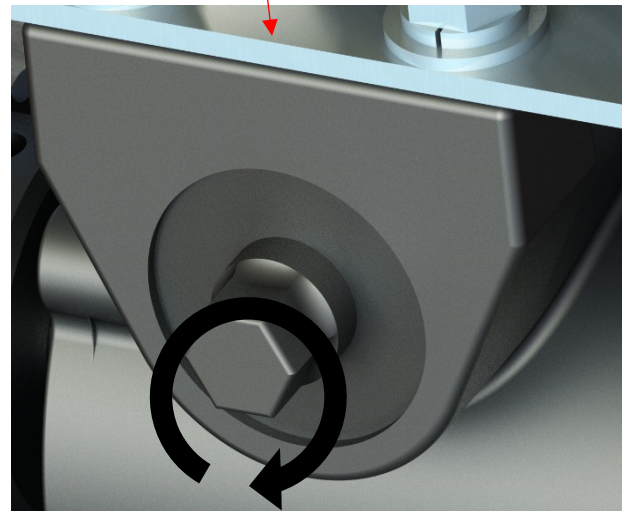

Figure 15
- 3) Use ½" (13 mm) hexagonal socket wrench to raise or lower the COVANA cover by turning the operator's input shaft. (Figure 15)